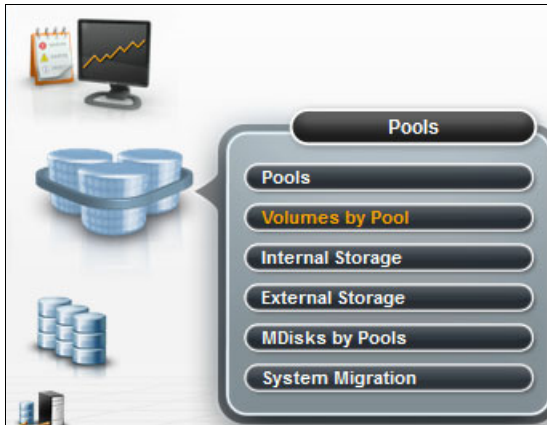

Figure 9-14 Pools menu
1. Hover the cursor over the Pools icon to open the Pools menu (Figure 9-14). Click **Volumes by Pool**.